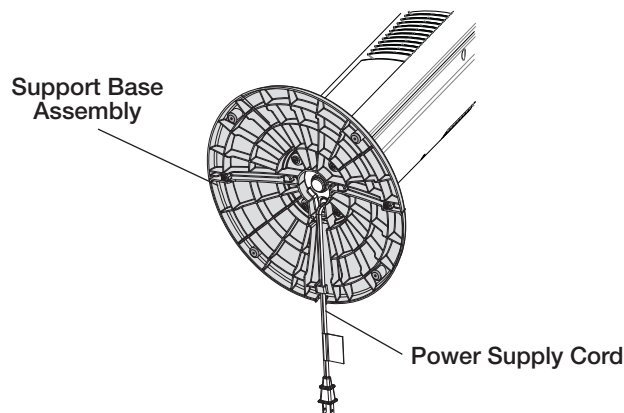

Figure 2
3. Thread the **Power Supply Cord** through the large hole in the center of the **Support Base Assembly**. *(Figure 2)*